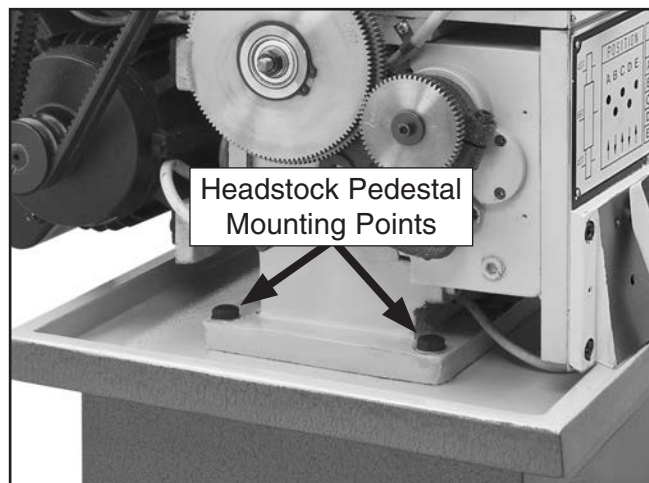

Figure 15. End cover removed to expose headstock pedestal mounting points.
14. Remove headstock end cover to gain better access to the headstock base pedestal (see **Figure 15**).